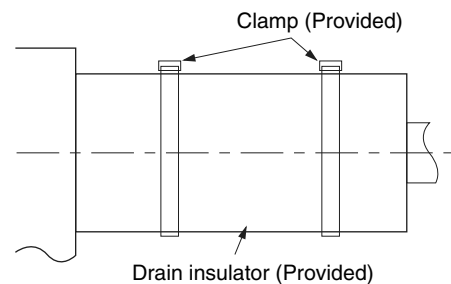

Fig. 3-77
- Do not install an air bleeder as this may cause water to spray from the drain pipe outlet. (Fig. 3-77)